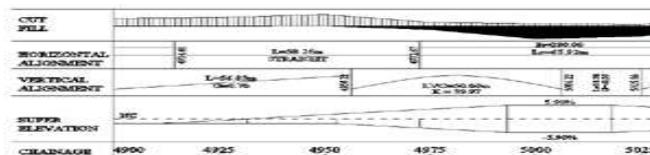

Figure 5. Area graph, linear plan of horizontal and vertical alignment and super elevation
- Graphical representation of earthwork can also be shown in profile data fields. As shown in figure 5.
- Graphical representation of super elevation and linear representation of horizontal and vertical alignments are easy to plot. As shown in figure 5.